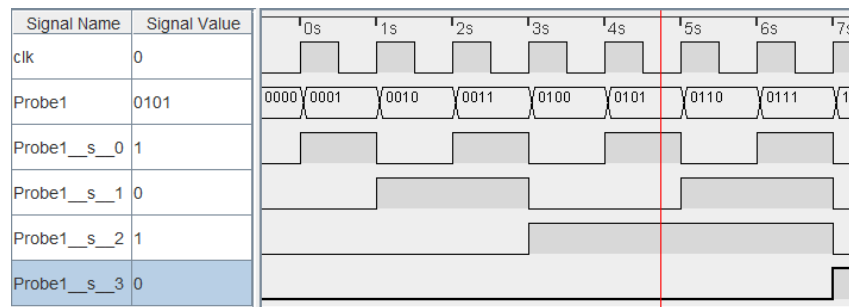

Figure 7.7: Timing Diagram for Up Counter
*Logisim-Evolution* can generate a timing diagram, called a *chronogram*, for a sequential circuit. That is a representation of the various signals in a circuit and how those signals change over time. Figure 7.7 is the timing diagram for an *Up* counter.
At the top of Figure 7.7 is a scale that indicates the number of seconds that the counter has been operating. The first trace is the input `clk` signal. The clock goes high at the start of each second and then goes low at the half-second mark. Under the clock is the “Probe1” signal. Because that is a four-bit number *Logisim-Evolution* displays the number, but under that number is a breakout of the four bits that make up that number. Thus, at time zero “Probe1” is 0001 and “Probe1\_\_s\_0” (that stands for “Probe 1, Signal 0”) is high while the other bits are low. The *Logisim-Evolution* chronogram includes a cursor indicated by a red line (found just before the five second tick in Figure 7.7) that can be placed anywhere along the diagram. The cursor sets the values of each signal in the area on the left edge of the diagram, so the cursor in Figure 7.7 is pointing to a spot where the `clk` is low, `Probe1` is at 0101, and so forth.
3. Set SIMULATE -> TICK FREQUENCY to 4 Hertz. This will simulate a clock that ticks once per second, as in Figure 7.7. While the